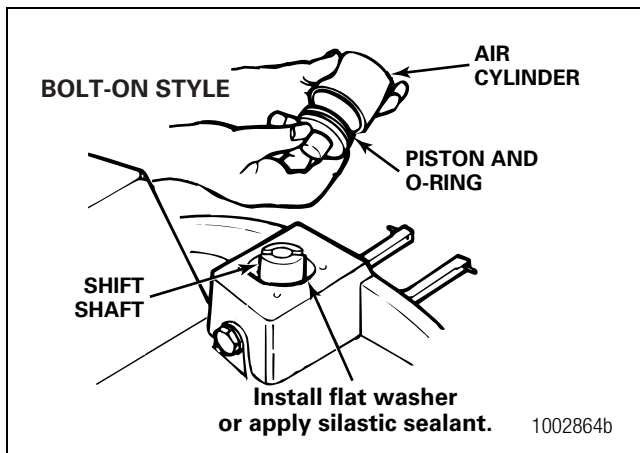

Figure 6.29
8. Install the copper gasket or apply silastic sealant, Meritor part number 1199-Q-2981, to the bottom of the cylinder bore. Figure 6.29.
9. Lubricate the O-ring with axle lubricant. Install the O-ring into its groove on the piston. Carefully install the piston into the air cylinder. Figure 6.29. Do not damage the O-ring.